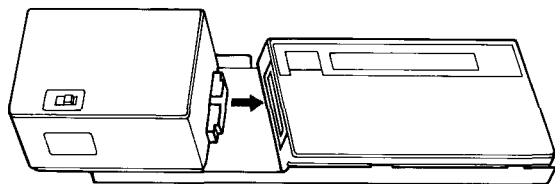

Figure 3. Connecting the PC-2 to the RS-232C Interface.
- Slide the RS-232C Interface onto Metal Support Bracket A so that the RS-232C 60-Pin connectors are connected. (See Figure 3.)